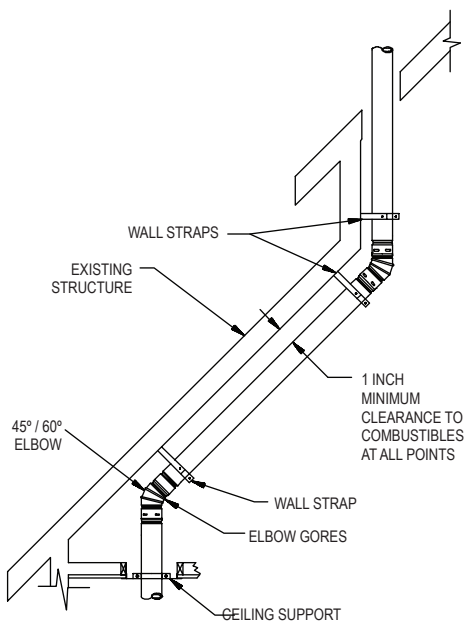

Figure 10
**7. Elbows.** When Elbows are required, strap the Pipe Sections and/or Elbows in place using Wall Straps. **Important:** the offset must be supported with Wall Straps to prevent the weight from stressing the elbows, as shown in **Figure 10**.
used to support each elbow (**Figure 10**). Do not allow the elbows to support the weight of the vent pipe.